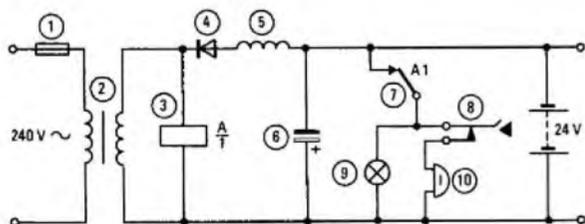

Fig. 1
**Q8 (a)** Name the components numbered in Fig. 1.
**A8 (a)** The components shown in Fig. 1 are listed below.